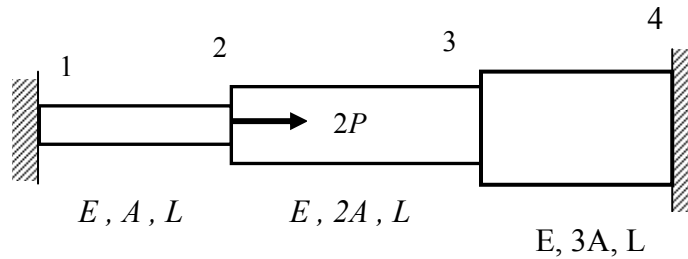

Figure 9(a)
4. (a) Write down the element stiffness matrices and global matrix for the three bar assembly which is loaded with force $2P$ and constrained at the two ends as shown in Figure 9(a) in terms of E, A and L .